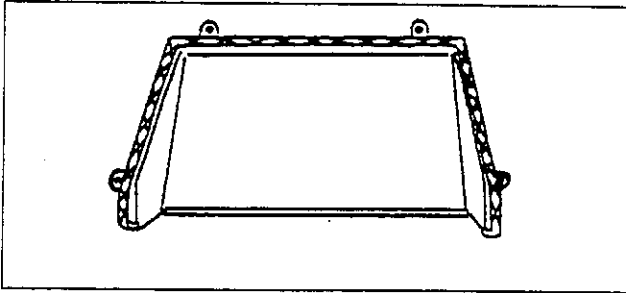

Figure 3. Ash Drop
1. Place the stove bottom upside down. Put a generous bead of cement around the top edge of the ashdrop. (Figure 3). Attach the ashdrop to the bottom with four hex bolts.